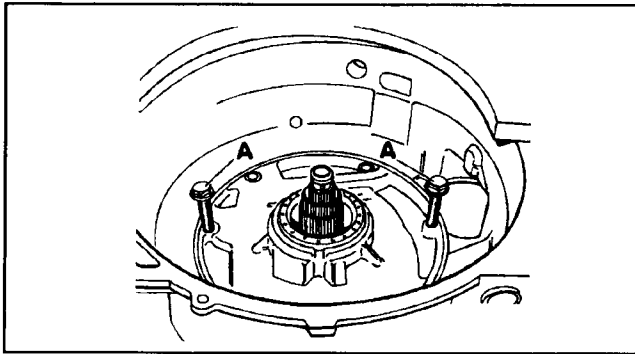
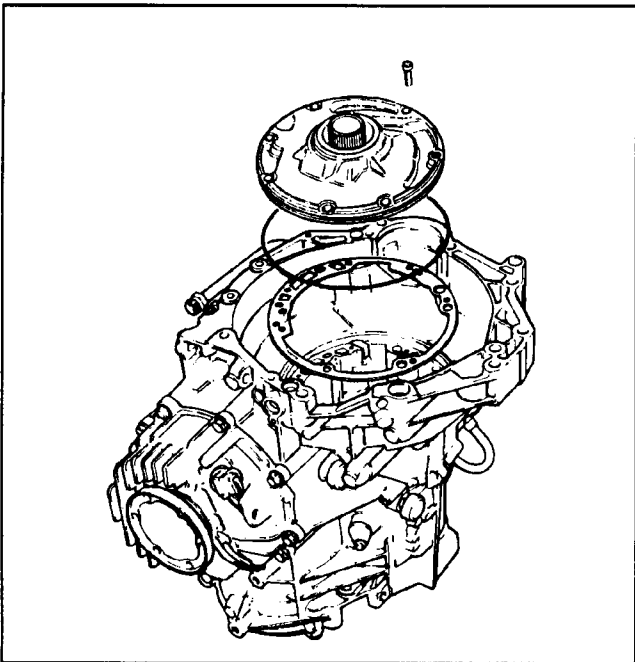

Figure 53
Figure 54
7. After removing the pump bolts from the case, use two 8mm thread bolts and screw them into the holes marked by "A" on both sides of the pump assembly as shown in (Figure 53). Install the bolts into the pump evenly as shown in Figure 53. Using these bolts, lift the pump away from the transmission case, and set the pump aside for inspection and cleaning (See figure 54).
8. The B2 clutch assembly has a unique stack up as shown in Figure 54 and 55. Lift and remove the B2 clutch wave spring and the two top steel plates from the case, then remove the three spring caps and load springs. Remove the rest of the B2 friction plates and steel plates along with the last three spring caps. Do not lose these caps or springs. You should have a total of six spring caps and three springs.